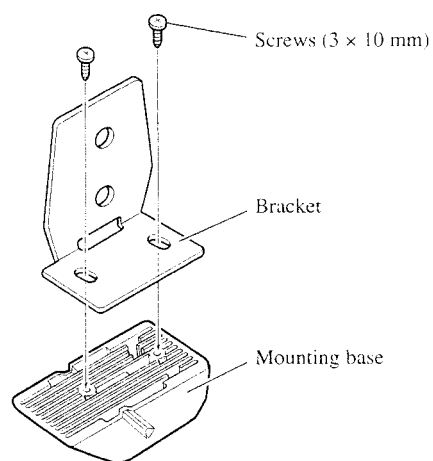

Fig. 17
1. Install the bracket to the mounting base. (Fig. 17)